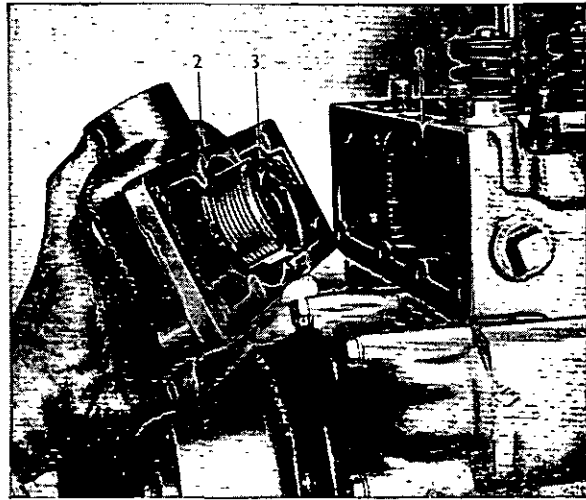
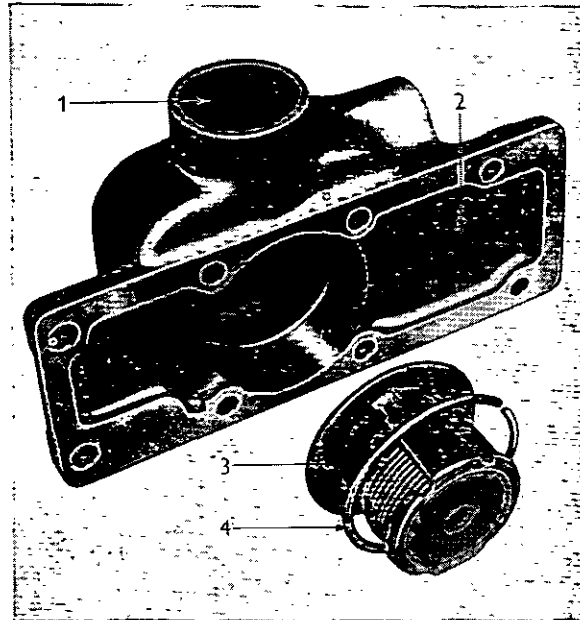

Fig. L.9. Removing Thermostat.
Fig. L.10. Exploded view of Thermostat and Water Outlet Connection
With the low position pump, the thermostat is fitted in the water outlet body situated on the front of the cylinder head (Fig. L.9). It is retained by a circlip (Fig. L.10).
2. For low position pumps, remove water outlet body and circlip in the body securing the thermostat. Remove thermostat (Fig. L.9).